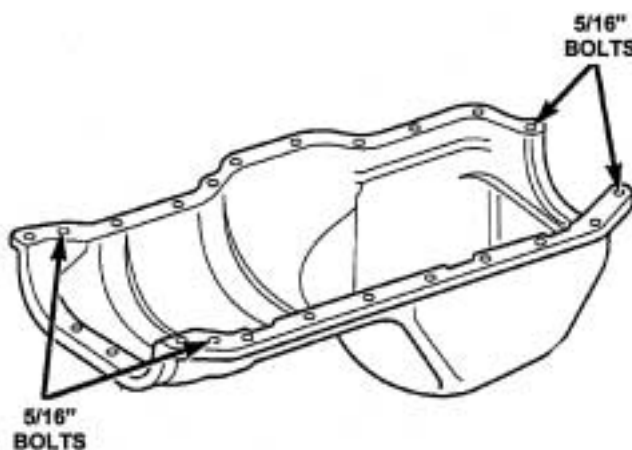

Figure 18
58. Install the four 5/16 inch oil pan bolts finger tight (Figure 18).